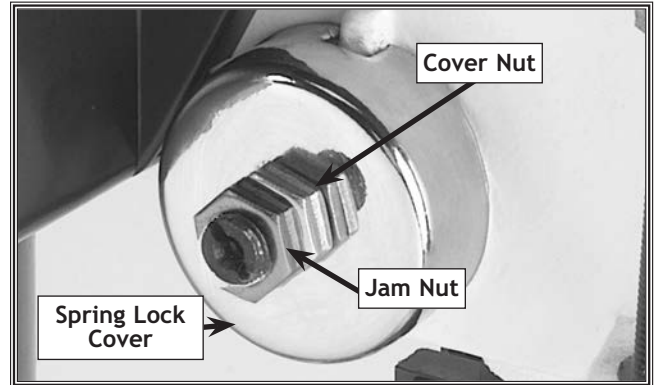

Figure 28. Typical feed shaft return spring assy.
2. Wipe off any oil on the spring lock cover so it will not slip in your fingers when you hold the cover from spinning (see Figure 28).